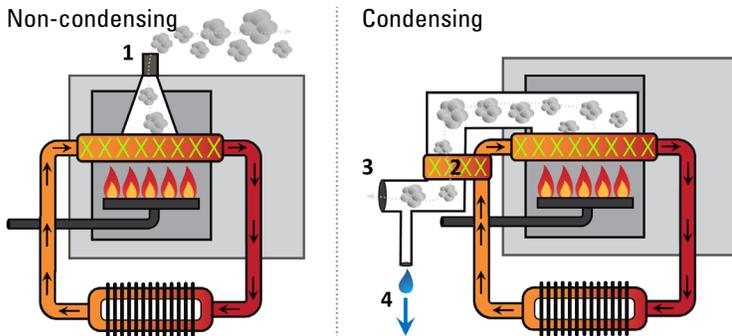

Figure 1: Non-Condensing Versus Condensing Boiler2
As shown in Figure 1, a non-condensing boiler's hot exhaust gases leave the combustion chamber through a chimney (1). In a condensing boiler, the exhaust gases flow through an extra heat exchanger (2) which uses the additional exhaust heat to preheat the cold water returning from the radiators. The cooler exhaust gases exit through a sideways-oriented PVC flue (3) and produce an acidic condensate drip (4).